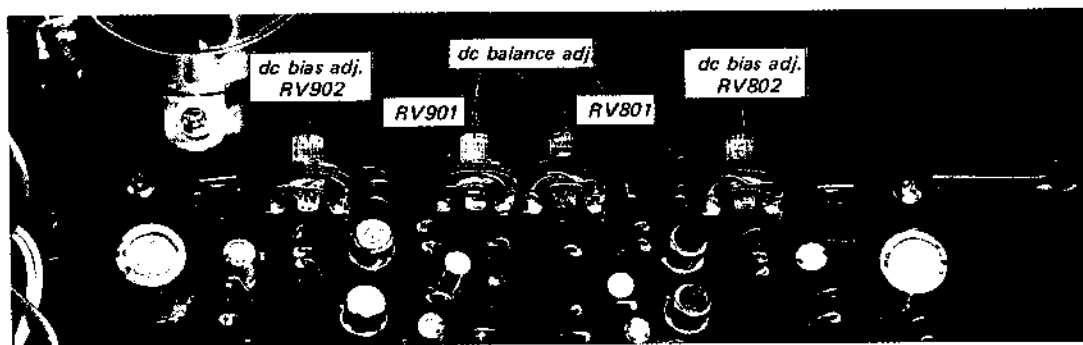

Fig. 3-17 Parts location
1. Apply a drop of cement solvent to the semifixed resistors on the power amplifier board, and then set the semifixed resistors (see Fig. 3-17) on the power amplifier board as follows: